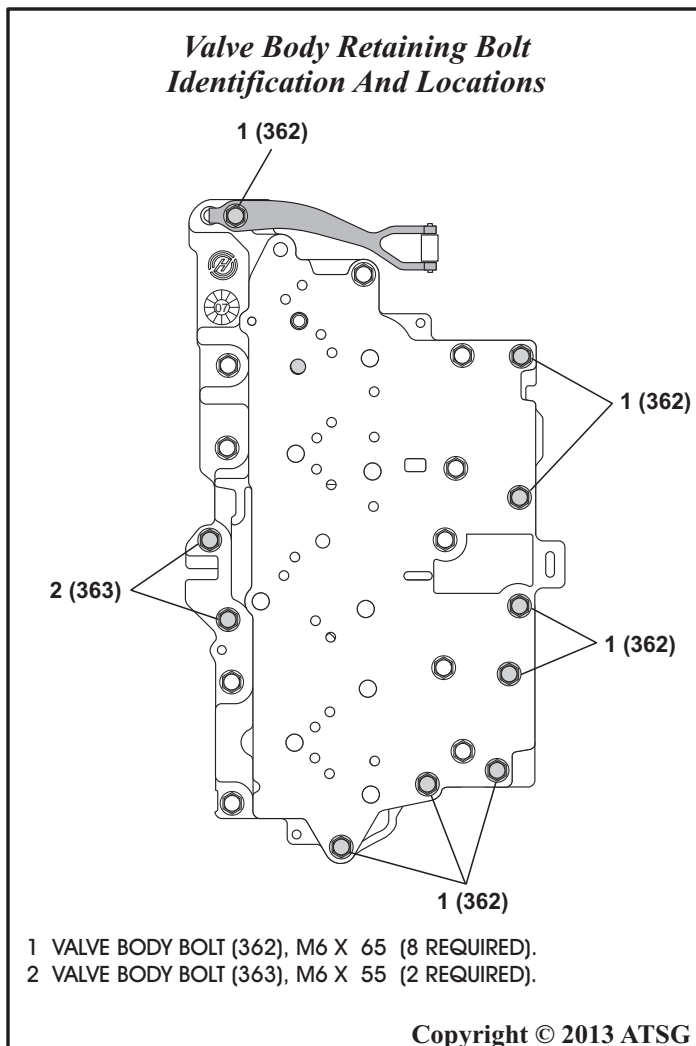

Figure 50
17. Remove only the valve body retaining bolts that are shown in Figure 50 and 51.